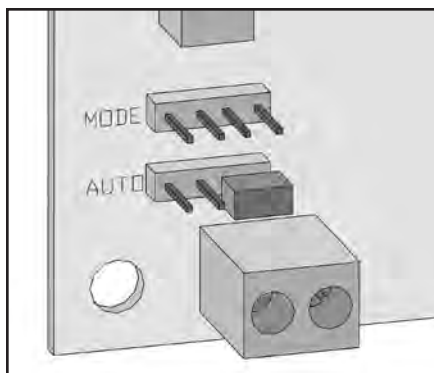
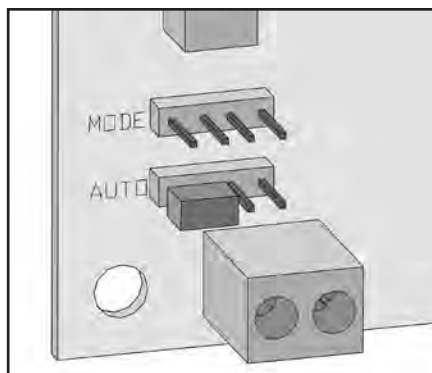
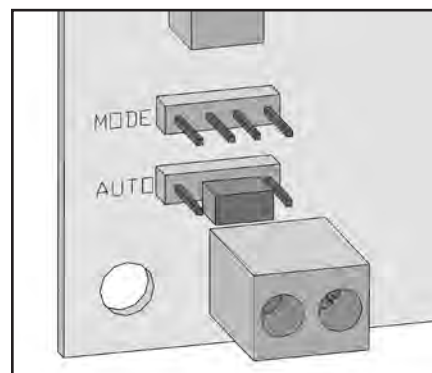

Figure 11: Auto pins set-up MANUAL.
Figure 12: Auto pins set-up ON/OFF.
Figure 13: Auto pins set-up HI/LOW.
This control board can be placed into three (3) different modes: Full Auto ON/OFF, High/Low Thermostat or Manual Mode. From the factory the far right AUTO pins are jumped and the control board is in manual mode operation (see Figure 11). If the far left AUTO pins are jumped the circuit board is in Full Auto ON/OFF mode (see Figure 12). When the center AUTO pins are jumped the unit is in the HI / LOW thermostate mode (see Figure 13), the